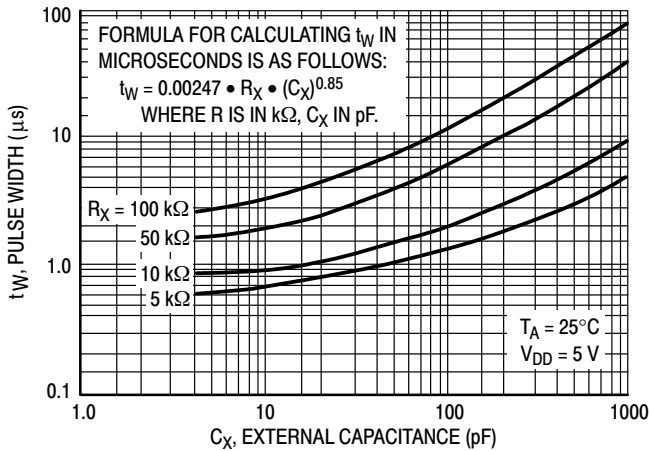

Figure 4. Typical  $C_X$  versus Pulse Width
**MONO-IN (Pin 15)** – Used as the timing pin for the on-chip monostable multivibrator. If the Mono-In input is connected to VSS, the monostable circuit is disabled, and Decode Out is directly connected to the selected Q output. The monostable circuit is enabled if a resistor is connected between Mono-In and VDD. This resistor and the device's internal capacitance will determine the minimum output pulse widths. With the addition of an external capacitor to VSS, the pulse width range may be extended. For reliable operation the resistor value should be limited to the range of 5 kΩ to 100 kΩ and the capacitor value should be limited to a maximum of 1000 pf. (See figures 4, 5, 6, and 11).